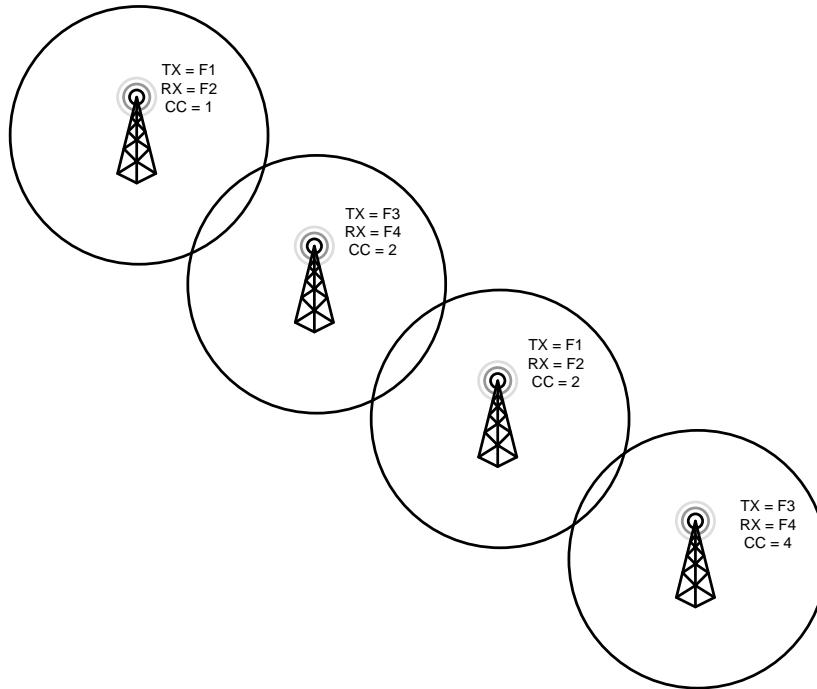

Figure 2-8 Corridor Coverage
3. **Corridor Coverage** – This type of coverage consists of sites that are placed along various transportation passages, such as roads, train tracks, shore lines, rivers and canals. In such site configuration a pair of adjacent sites overlaps in RF coverage; refer to Figure 2-8. The non-overlapping sites may reuse the frequencies, but must use different color codes to be identified by the subscribers during roaming. A radio user transitions from one site to another within an hour.